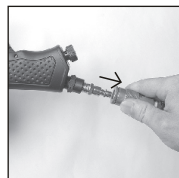

Figure 7
1. Disconnect the tool from air supply. (See Figure 7)